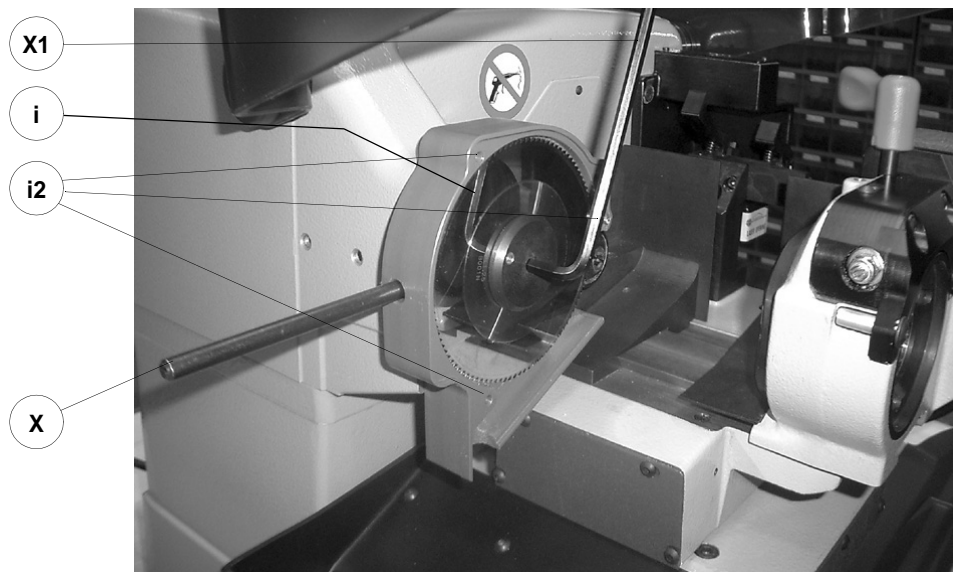

Fig. 133
- 3) slide the cutter release rod (X) into the hole located on the left side of the machines cutter shaft chassis (fig. 133).